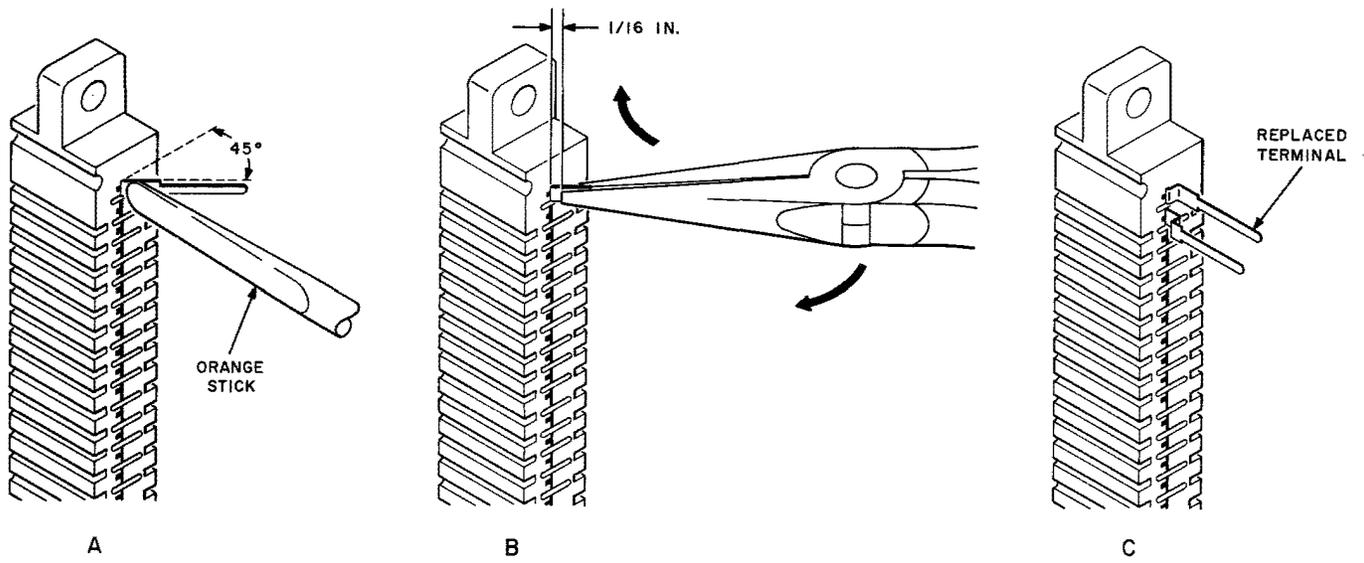

Fig. 4 — Forming Replacement Terminal
- (d) Using an orange stick or small screwdriver, apply pressure to the terminal below the wire-wrap embossing, bending the terminal to a 45-degree angle to the connector. (See Figure 4(A).)
- (e) Using the P long nose pliers, grasp the terminal as shown in Figure 4(B). Apply force as indicated by the arrows, and bend back the end of the terminal so that it is parallel to the adjacent terminals. At the same time, force the 1/16-inch long portion of the terminal flat against the block. The end of the new terminal should not protrude farther than the other terminals.